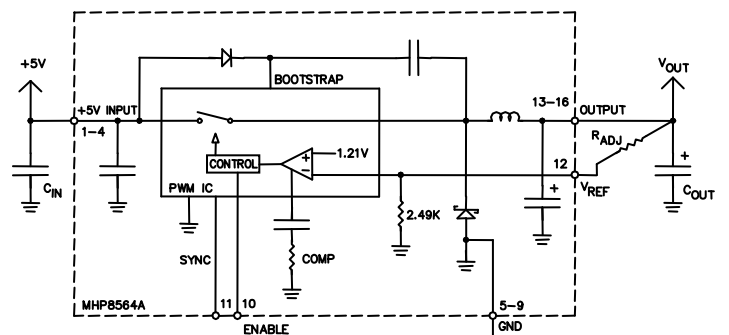

Figure 3 – 8564A Connections
MHP8564A adjustable regulator application information – Figures 3 and 2.
The MHP8564A consists of a PWM integrated circuit surrounded by some of the components required for operation as a POL (Point of Load) regulator, generating output Voltages in the 1-4 Volt area from a 5 V supply. Figure 3 shows a typical application circuit.
- When employing only electrolytic output capacitors, the simplest compensation is a capacitor whose value is $1.5nF$ times the number of paralleled units. However, a slightly more complex compensation of a resistor (R_c) of value $1.6 k\Omega$ divided by the number of units in parallel, in series with a capacitor (C_c) of value $3900pF$ times the number of units in parallel, all of which is in Parallel with a capacitor (C_f) of value $1000pf$ times the number of units in parallel, generally leads to smoother output transitions with less turn on overshoot. Output capacitors should be as shown in Figure 3, one ea CWR29FC227 per regulator.